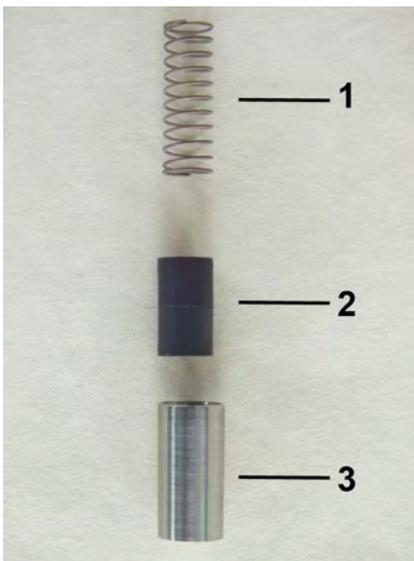

Fig. 43: inner parts
4. ➔ Insert the spring (Fig. 43/1) and magnets (Fig. 43/2) into the float (Fig. 43/3) observing the magnetic polarity (north pole toward the outlet side).